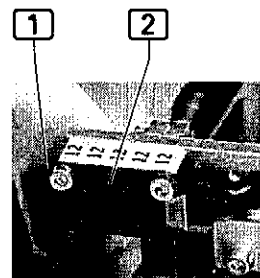

Fig. 9
1. **Fig. 9:** Ensure that the light beam of the photocell [2] is not interrupted by objects.